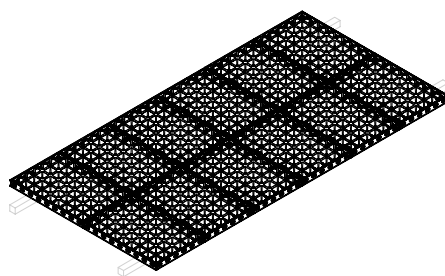

Fig. B1.14
4. Repeat step 3 until the required component length has been reached. (Fig. B1.14)
1. Install the closing formwork in the same way as the primary formwork. (Fig. B1.11 – Fig. B1.14)